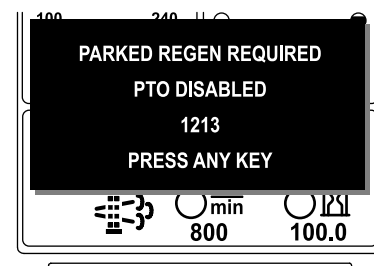

Figure 50
- If you do not perform a parked regeneration within 2 hours, the InfoCenter displays parked regeneration required—power takeoff disabled ADVISORY #1213 (Figure 50).